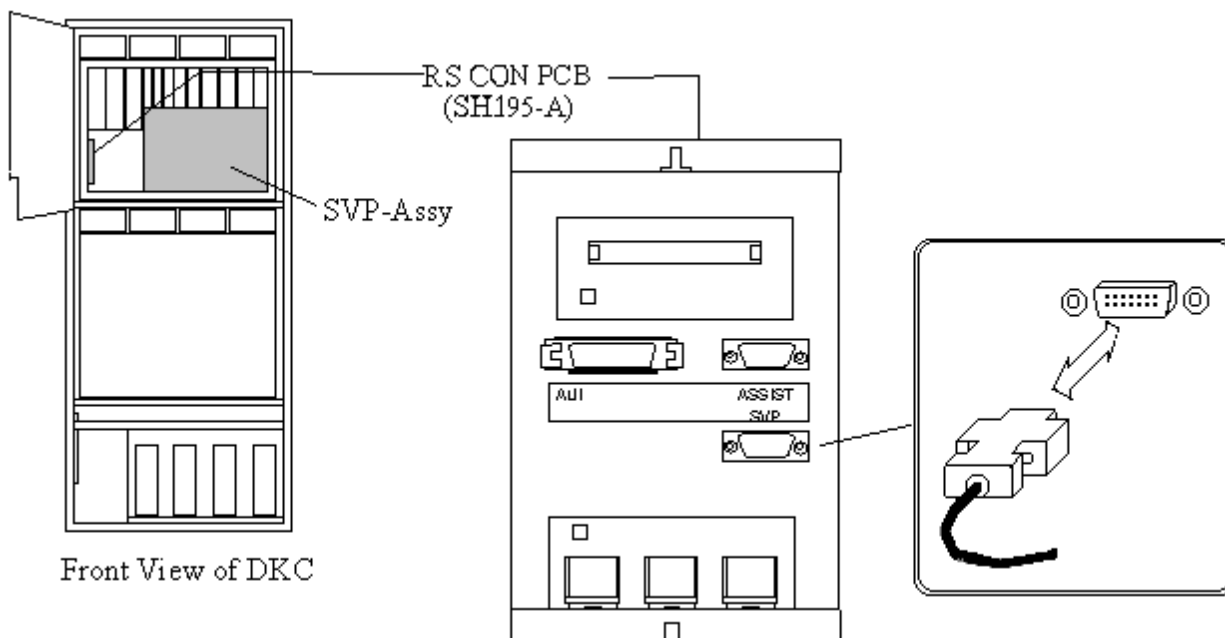

Fig. 8-1
(1) Please remove the cable from RS CON PCB. (See Fig. 8-1)
(2) Please insert the cable into RS CON PCB. (See Fig. 8-1)